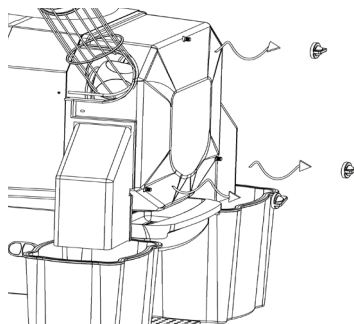

Figure 8
- 4- By unscrewing Female Screws remove the front cover. **(Figure 8).**